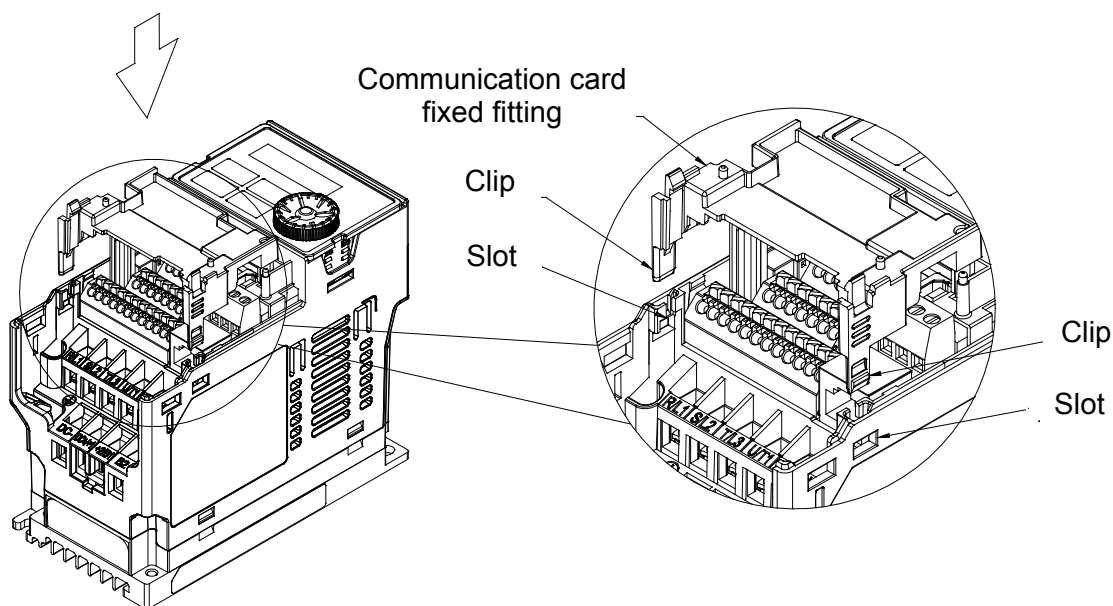

Fig. 1
3. As shown in Fig. 1, aim the two clips at the communication card fixed fitting. Press the fixed fitting to clip the slot.